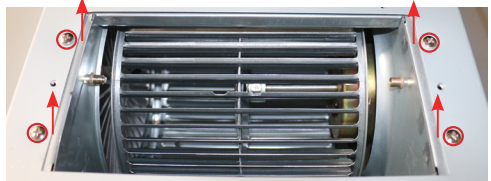

Figure 7
- Remove all 4 screws holding the blower casing.(Figure 7)